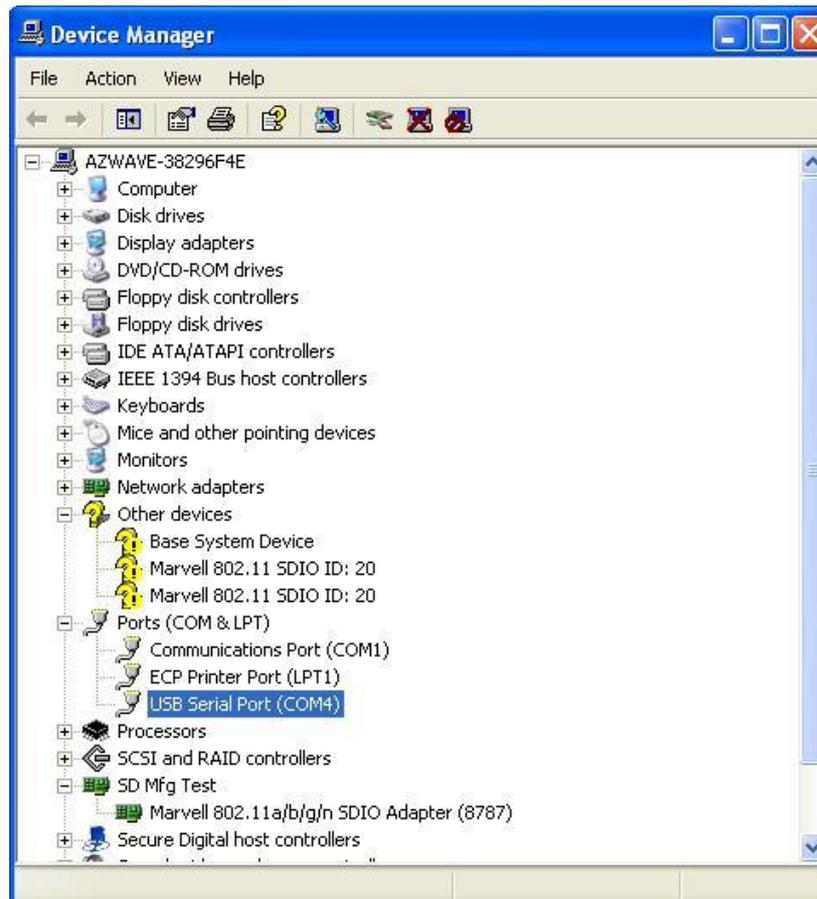

Figure 8
9. After installing, you can find the new comport showing up in the devices manager as figure 8.